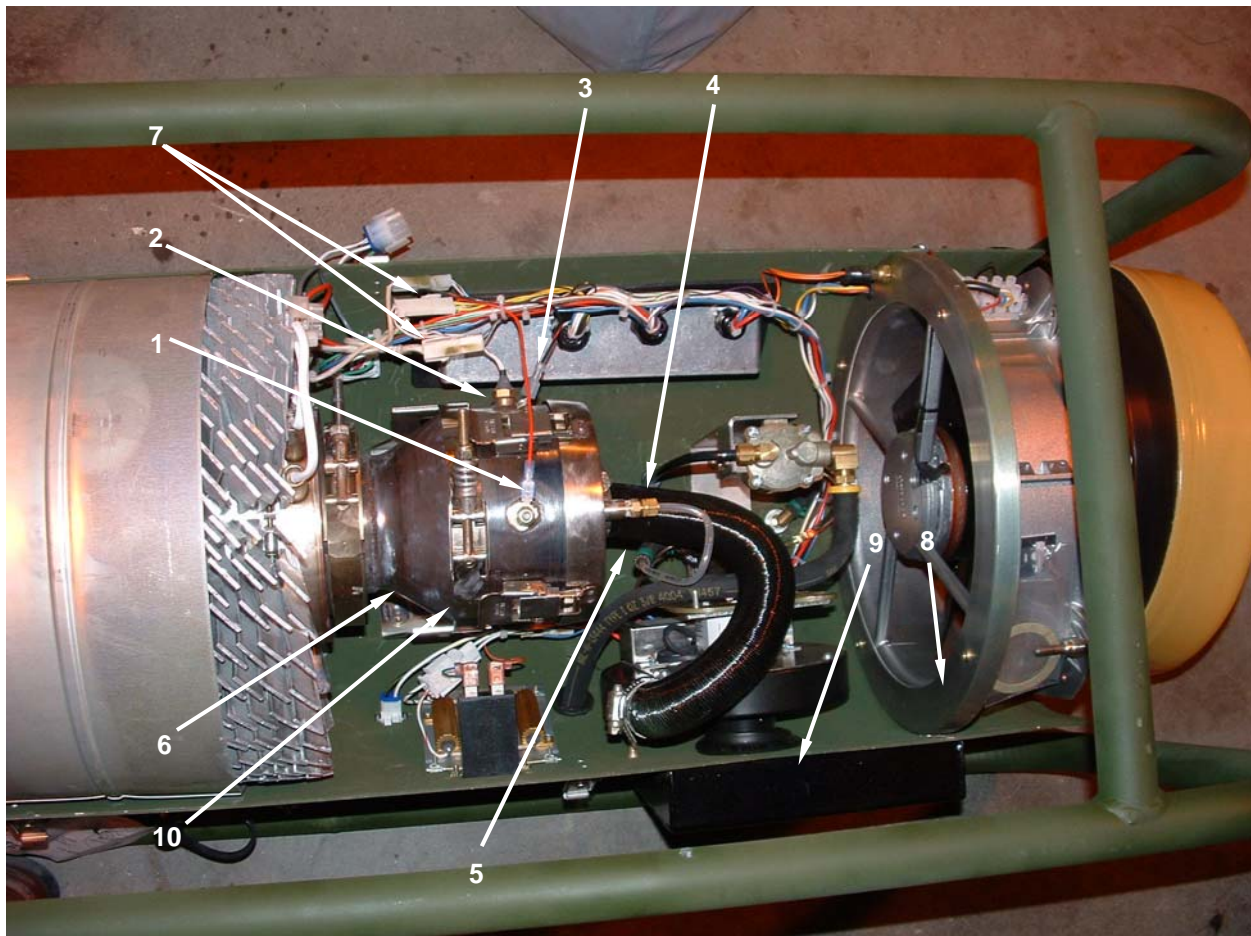

Figure 1. Remove Heat Exchanger .
3. Tag and disconnect the glow plug wire (**Figure 1, Item 1**), flame sensor connector (**Figure 1, Item 2**), ground wire (**Figure 1, Item 3**), fuel line (**Figure 1, Item 4**), and combustion air blower hose (**Figure 1, Item 5**) from the burner assembly (**Figure 1, Item 6**).
4. Tag and disconnect the two TEG electrical connectors (**Figure 1, Items 7**).
5. Tag and disconnect the two wires (**Figure 1, Item 8**) going into the modular connector (**Figure 2, Item 9**) on the side of the TEG by loosening the two bottom screws. Do not loosen the top screws for the wires that enter the interior of the TEG.